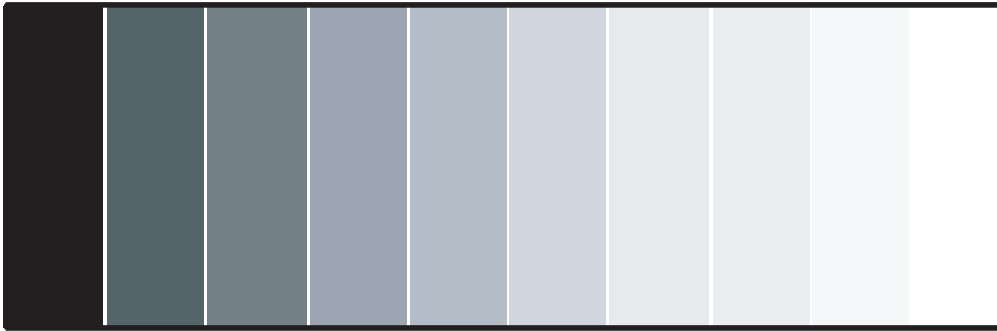

**Figure 4-3. Typical Gray Bar Pattern for Adjusting Contrast**
**Contrast:** On your external test pattern source, select a stepped, gray-bar pattern like the one shown in Figure 4-3.